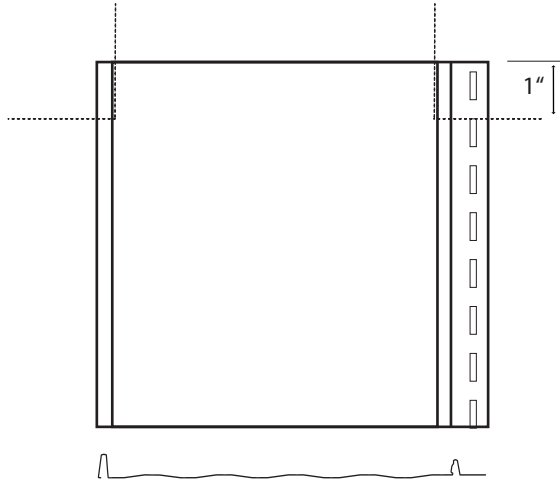

fig. 1
step 1. Measure down 1" from the top edge. (see fig. 1)